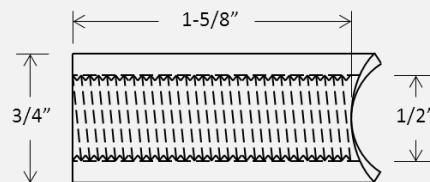

Figure 4.1
4. Cut 3/4" off the end of each tube that you used for clamping, the cut or grind a fish mouth for a 3/4" tube at that end. The finished tubes should look like figure 4.1.